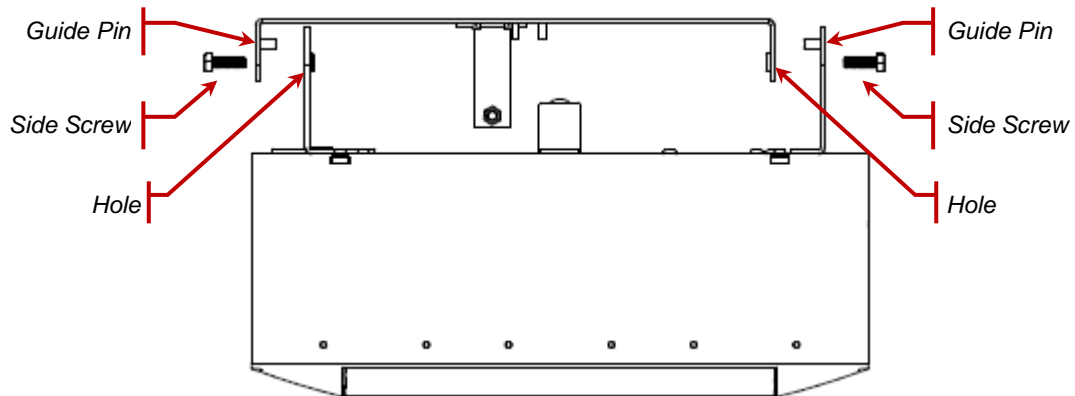

Figure 10 Kepri Module Engaging the Wall Bracket
1. Slide the Kepri module into the wall bracket and use the guide pins to engage the corresponding holes. Refer to Figure 10.
3. Secure the Kepri module with the side screws; use an 8mm nut driver to lock firmly. Refer to Figure 10.